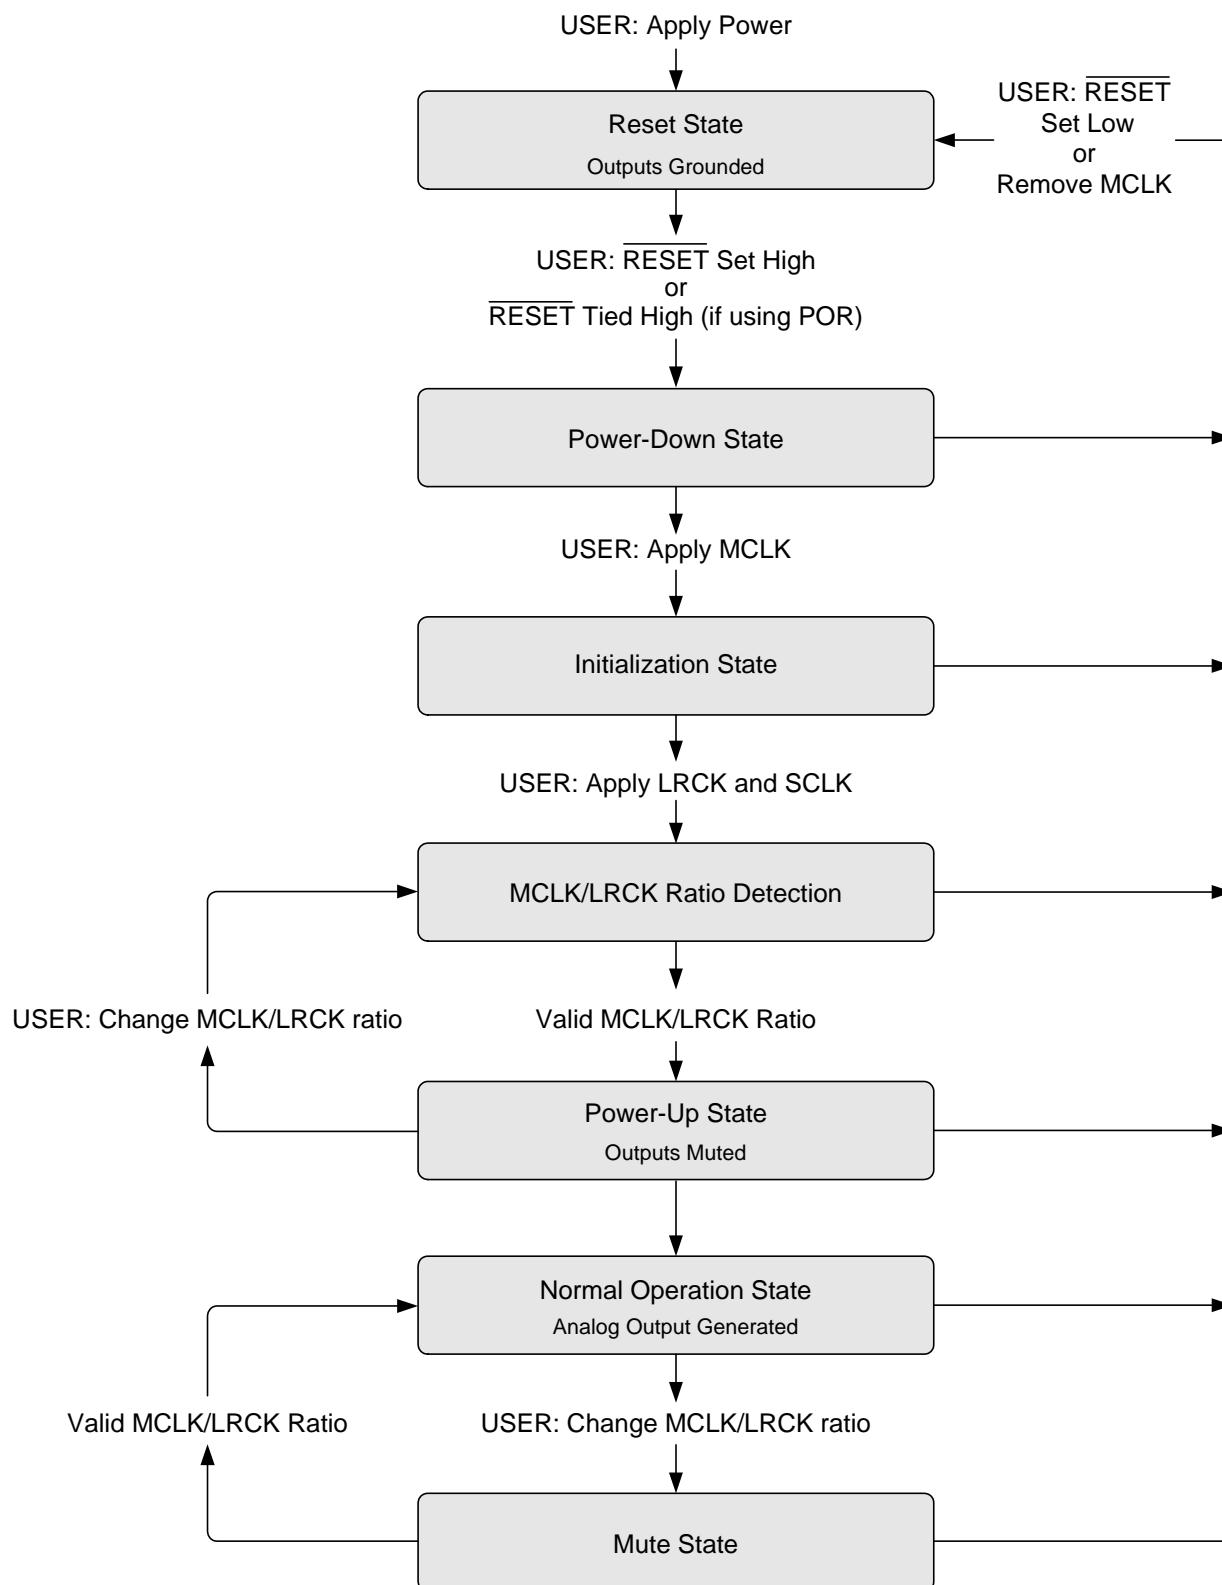

Figure 9. Initialization and Power-Down Sequence Diagram
The CS4353 operates in one of three operational modes. The device will auto-detect the correct mode when the input sample rate (F_s), defined by the LRCK frequency, falls within one of the ranges illustrated in Table 3. Sample rates outside the specified range for each mode are not supported. In addition to a valid LRCK frequency, a valid serial clock (SCLK) and master clock (MCLK) must also be applied to the device for speed mode auto-detection; see Figure 9.
See Figure 9 for a diagram of the device's states and transition conditions.
2. Bring $\overline{\text{RESET}}$ high. The device will initiate the power-up sequence seen in Figure 9. The sequence will complete and audio will be output from AOUTx within 50 ms after $\overline{\text{RESET}}$ is set high.
3. After the power supplies and configuration pins are stable, provide the correct MCLK, LRCK, and SCLK signals to progress from the 'Power-Down State' in the power-up sequence seen in Figure 9. The sequence will complete and audio will be output from the AOUTx pins within 50 ms after valid clocks are applied.
A3	<ul style="list-style-type: none"> Updated output offset specification in the DAC Analog Characteristics (Commercial - CNZ) and DAC Analog Characteristics (Automotive - DNZ) specification tables. Changed common mode rejection specification to AOUT_REF rejection in DAC Analog Characteristics (Commercial - CNZ) and DAC Analog Characteristics (Automotive - DNZ) specification tables. Added note 7 on page 7. Updated minimum MCLK frequency in Switching Specifications - Serial Audio Interface table. Updated minimum single-speed sample rate in Switching Specifications - Serial Audio Interface table and in Section 4.2 "Sample Rate Range/Operational Mode Detect" on page 15. Changed capacitor on VFILT- from 2.2 μF to 22 μF in Figure 3 on page 13. Combined +3.3 V VCP and VA supplies in Figure 3 on page 13. Removed note from Section 4.7 on page 18. Added "or Remove MCLK" to Figure 9 on page 19. Changed "DC offset" to "transient" in note for Section 4.8.2.2 on page 20. Removed "recommended" and added capacitors must be C0G for LPF in Figure 3 on page 13. Updated note 6 on page 7.